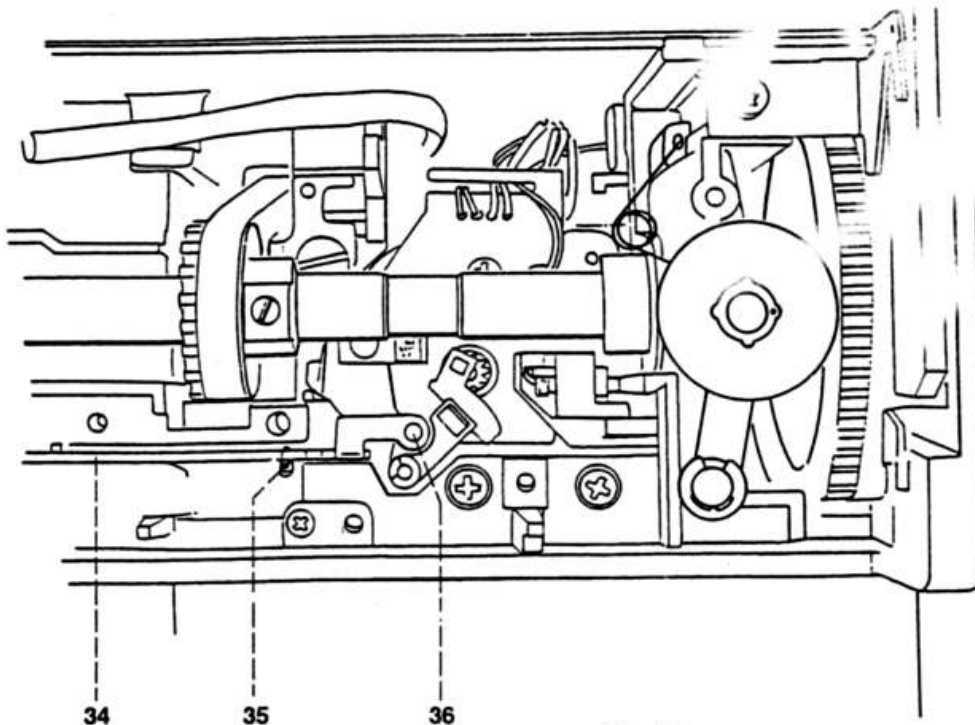

Fig. 10a
- Disconnect spring 35 at the top with a spring hook and let it hang on the latter (fig. 10a).